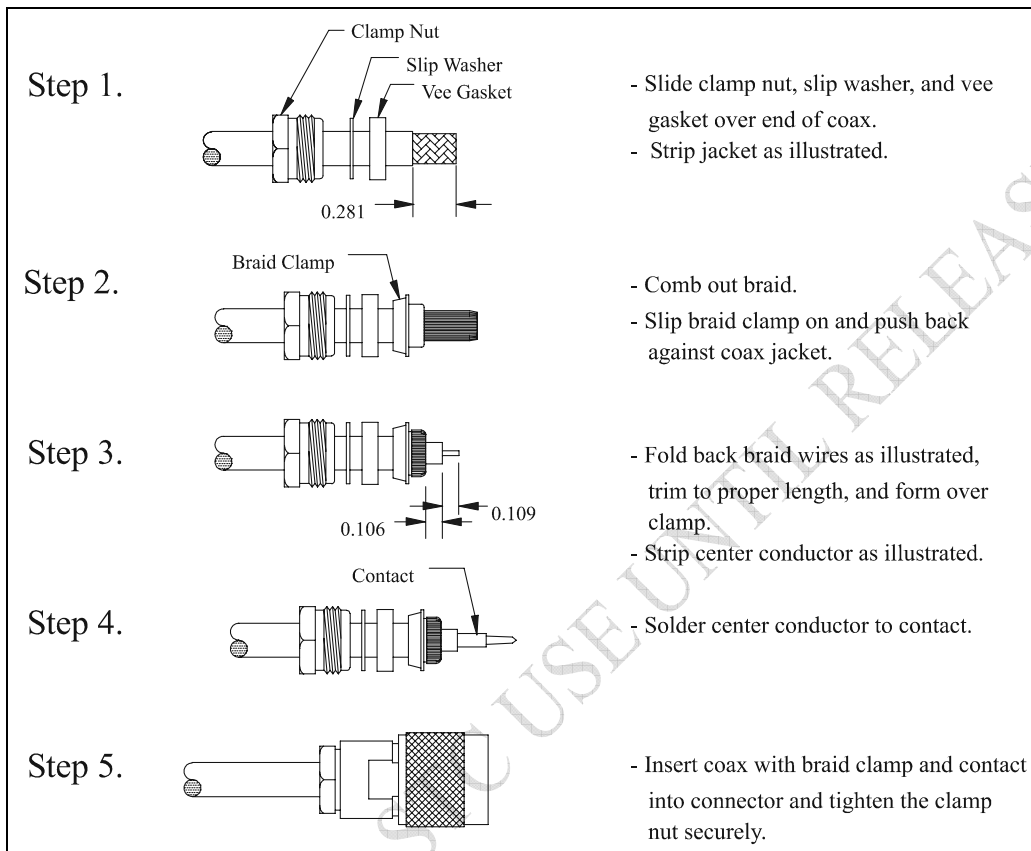

Figure 2-13. TNC Connector Installation
2. Trim the coaxial cable to the desired length and install TNC connectors at each end per the cabling instructions listed in Figure 2-13. For routing convenience, one end of the coaxial run can be terminated prior to installation.